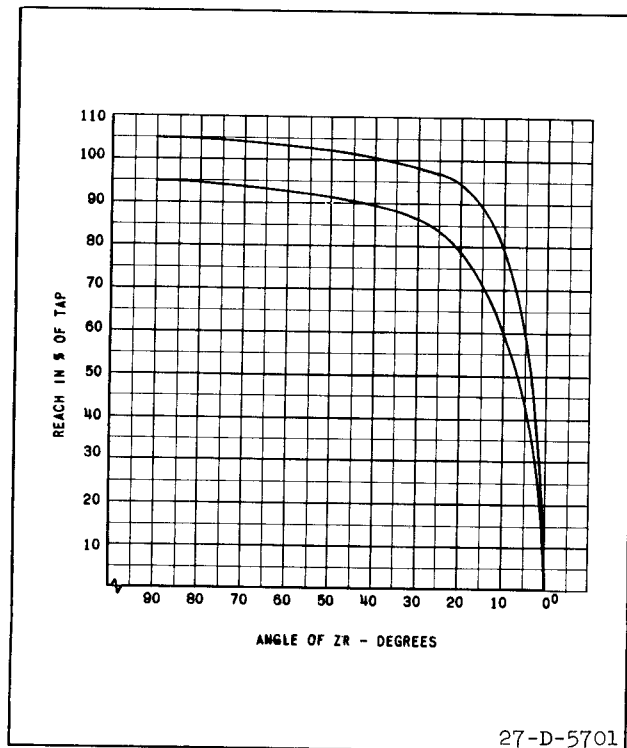

Fig. 16—Typical Reactance Characteristics.
The magnetic gap settings are made at the factory to set the reactance curve within the limits shown in Fig. 16. These settings are quite critical and should not be disturbed in the field. If it is necessary to check this characteristic the following procedure is recommended.
3. Repeat this procedure for zones two and three using 45 volts line to ground and again calculate the reach of the relay. Compare the above results to the curve of Fig. 16.